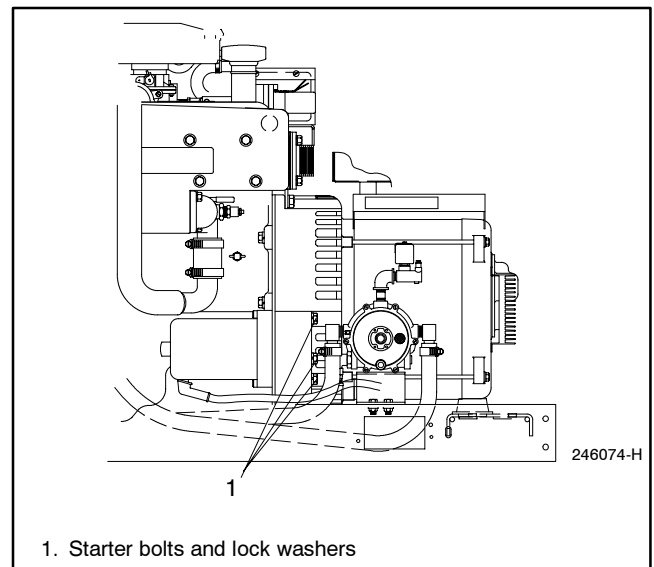

Figure 6-8 Engine Starter
17. Remove three bolts and lock washers securing starter to adapter. See Figure 6-8.